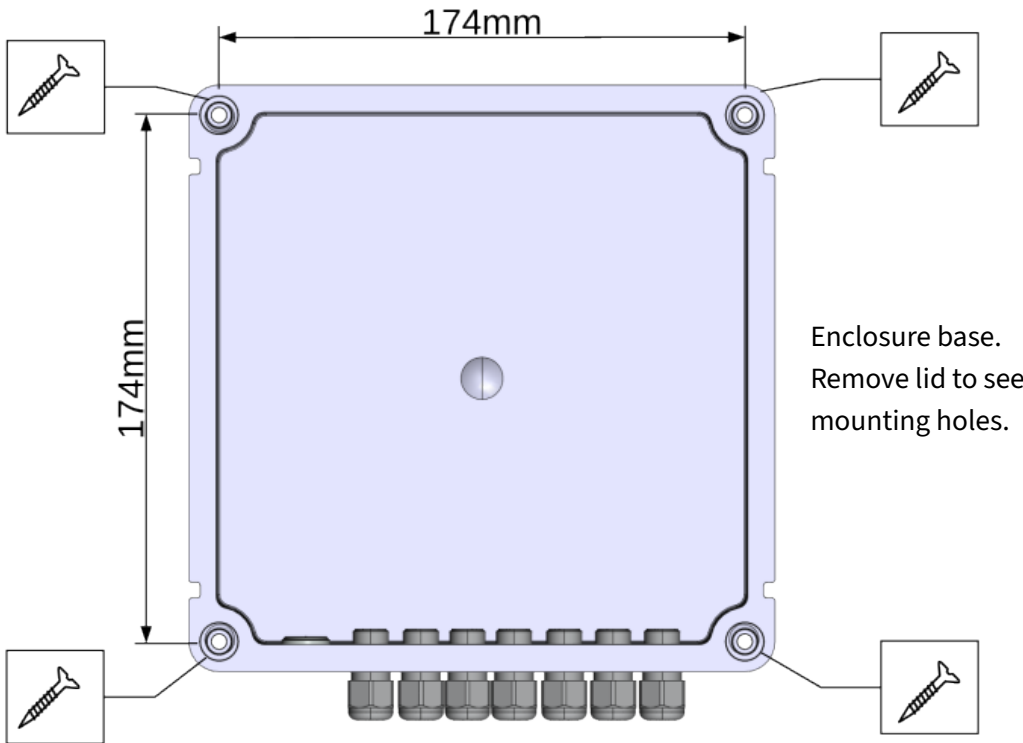

Figure 4: Enclosure mounting hole positions
- ⚠ Only use Procell Constant PC1500 or Varta Industrial Pro 4006 LR06 (AA) primary cells.
- ⚠ Only use the mounting points shown in Figure 4. Do not drill holes in the enclosure or otherwise modify it as this would affect the IP65 rating and may allow water and/or moisture to enter the enclosure, affecting the correct function of the alarm. It would also invalidate the ATEX/UKEX/IECEX certification.
- ⚠ The voltages used on all the relay output contacts must be similar, i.e. do not mix low voltage (ELV) and high voltage (LV).
2. Use the mounting points provided on the enclosure to mount in the position required. See Figure 4 for mounting points and dimensions.